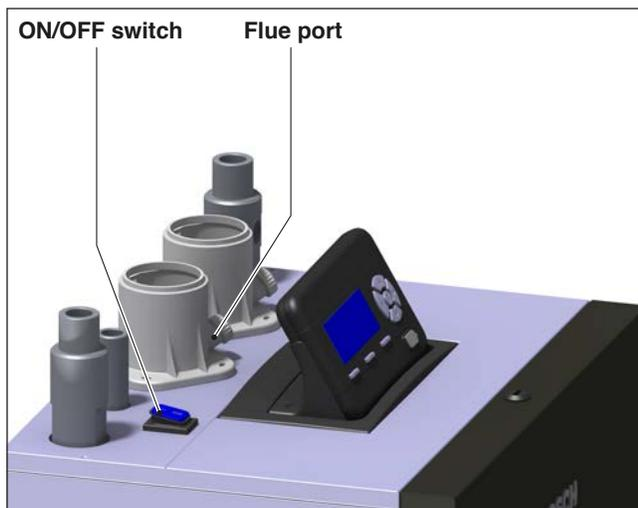

Fig. 56 Flue access port.
- [1] Insert the combustion analyzer probe inside the flue access port. (Fig. 56);